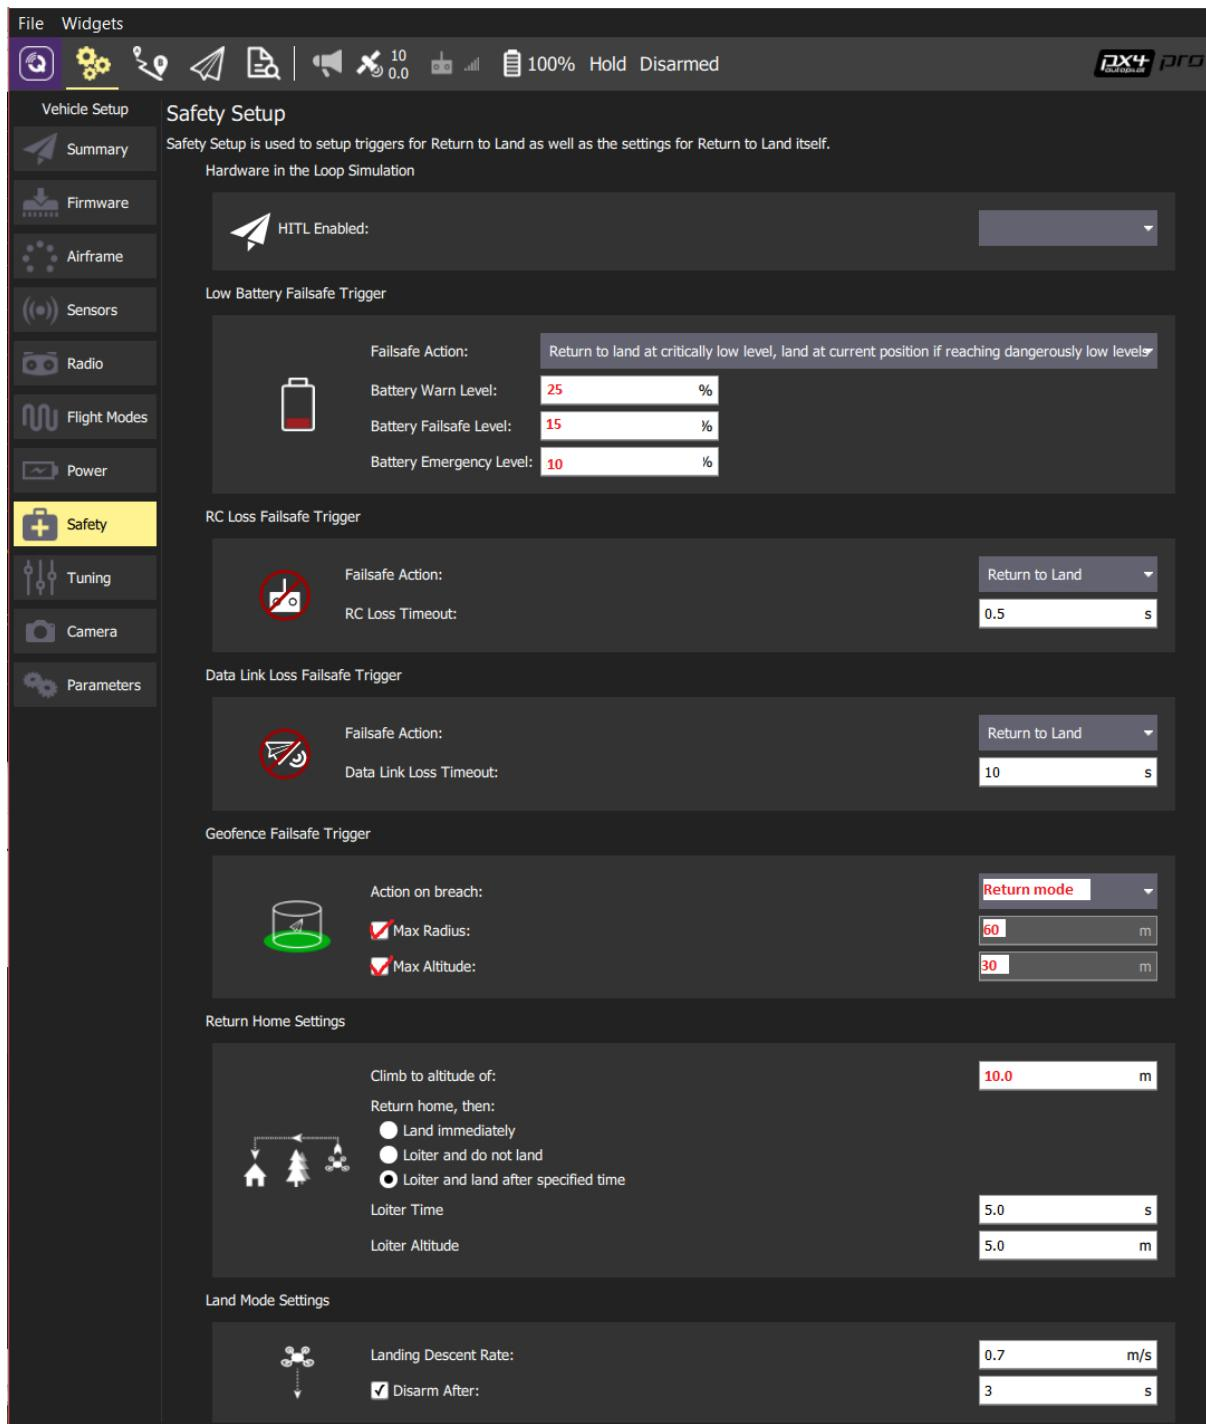

Figure 4.1: Safety setup.
- (b) Ensure that all the options are matching figure 4.1. Pay special attention to the fields in red.